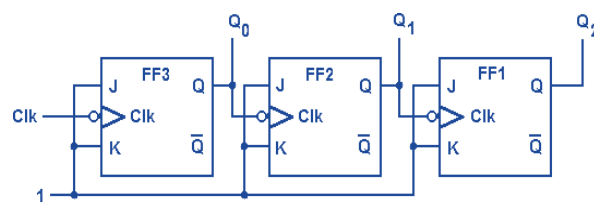

Fig.5.11: 3-bit binary ripple counter
- The **binary ripple counter** is as shown in the fig.5.11 uses three **JK flip flops** FF3, FF2 and FF1.